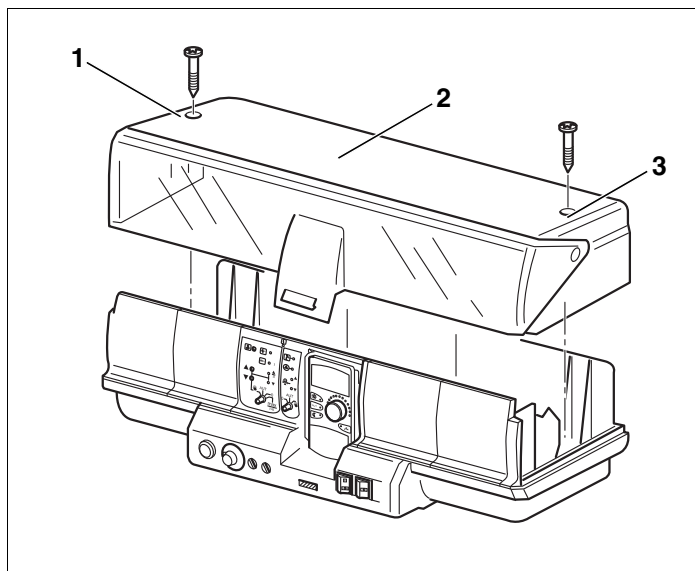

Fig 19 Removing covers
- Unscrew both screws (→ Fig. 19, [1] and [3]) on the upper side of the appliance.
- Lift off terminal cover (→ Fig. 19, [2]).